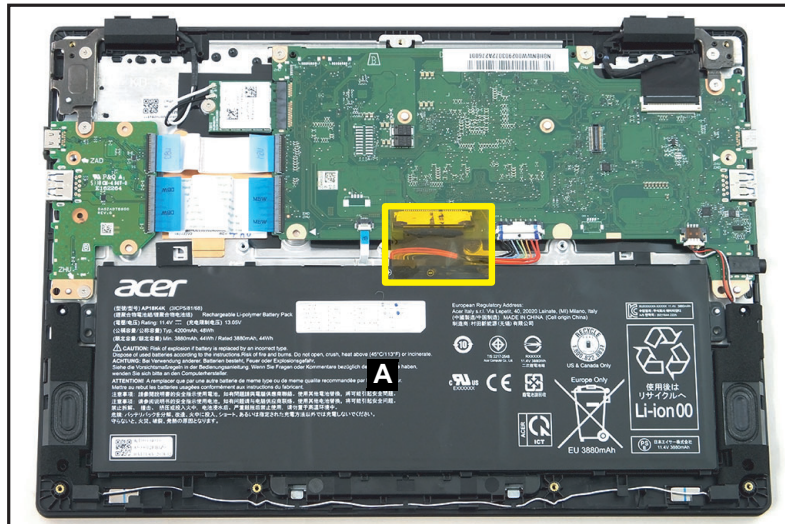

Figure 1-6. Battery Pack Removal
1. Find the battery pack (A) on the top assembly (Figure 1-6).
2. Detach the adhesive tape from the battery pack and keyboard FPC connector (Figure 1-6).